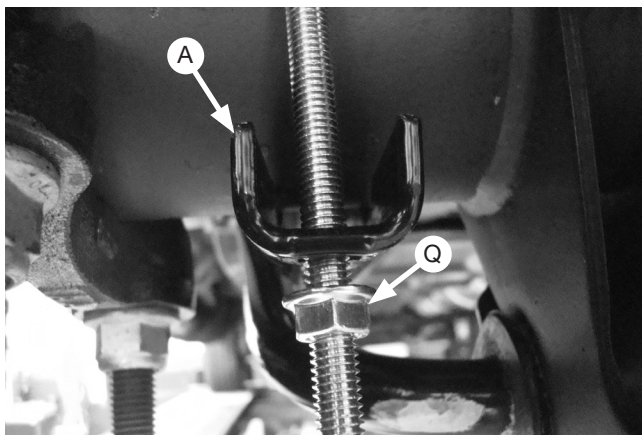

Fig. 19
If there is a sway bar, insert the carriage bolts through the Clamp Bar (A) while setting the assemblies into position over the axle (see Fig. 19).
5. If not already completed, set the lower clamp bars (A) over the carriage bolts located under the axle (Fig. 19). Attach with the 3/8" serrated flange lock nut (Q). Evenly torque the lower clamp bar hardware to 16 lb.-ft. (22Nm). Finish tightening the U-bolt hardware previously snugged by torquing to 10 lb.-ft. (14Nm).